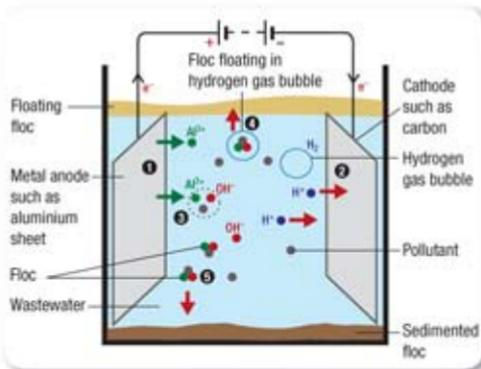

Figure 6.12 Electrocoagulation
**Electrocoagulation** is an innovative technique to treat wastewater (Figure 6.12). Electrocoagulation applies two processes, namely electrolysis and coagulation.